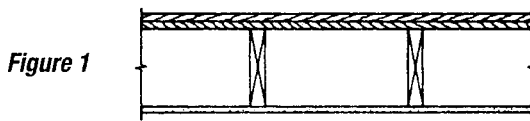

Figure 1
The major sources for dimension lumber fire-endurance assemblies are the *Fire Resistance Design Manual* published by the Gypsum Association, the *Fire Resistance Directory* published by the Underwriters Laboratories, Inc. (UL), and Section 720 and Table 720.1(3) of the 2006 *International Building Code*. The major source for metal plate connected truss fire-endurance assemblies is found at www.sbcindustry.com. There are numerous fire-endurance assemblies detailed in these sources. These assemblies include different options, such as the direct application of gypsum, or the use of resilient channels, insulation or suspended ceilings. They range in performance from 45 minutes to 2 hours. The most common dimension lumber and truss fire-endurance assemblies are detailed in Figures 1 – 5 to the left.
(1) Dock & Harbor Authority, London, England, "What About Fire?", American Institute of Timber Construction, 1972, p.3.